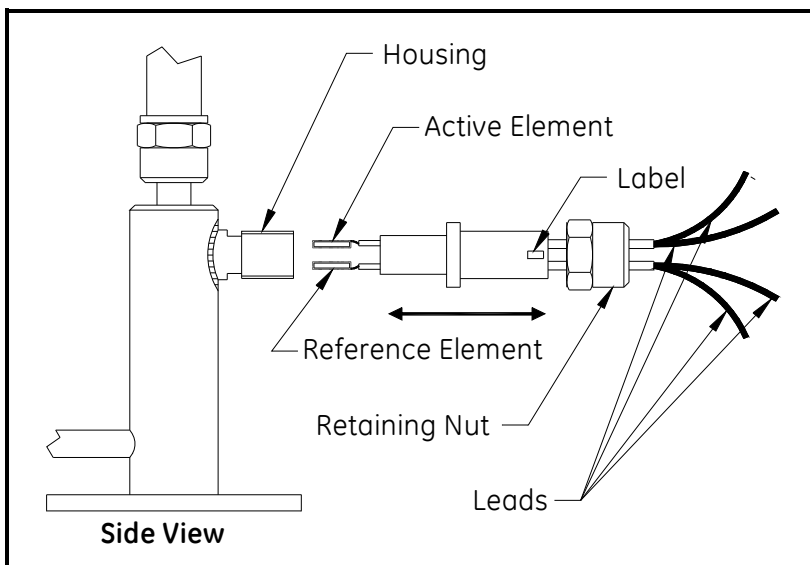

Figure 36: Combustibles Detector Orientation
4. Orient the new combustibles detector with the active element above the reference element and the serial number label facing out, as shown in Figure 36. Using a torque wrench set at 70 N-m (600 in-lb), securely tighten the retaining nut by turning it clockwise, as viewed from the end of the combustibles detector.